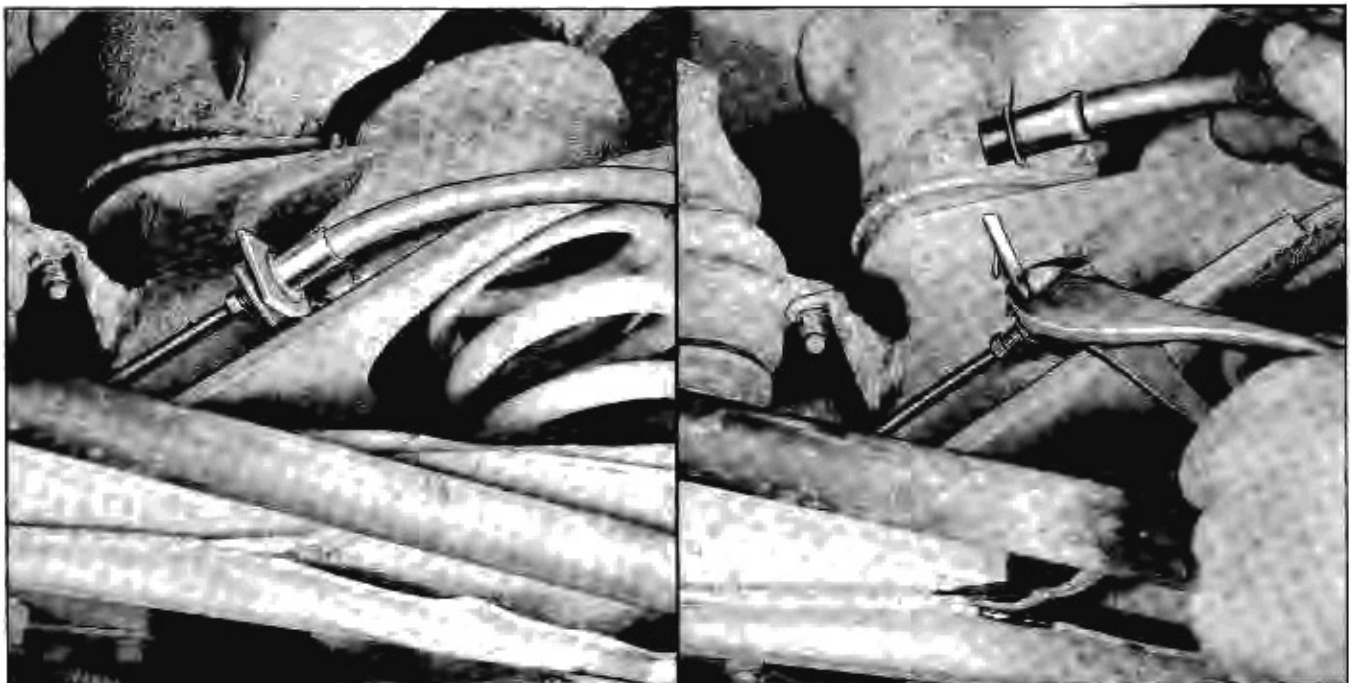

Fig. 3-29 Disconnecting Brake Hose from Brake Line
2. Loosen the control arm cross shaft bolts (in ends of shaft). Disconnect brake hose from brake line at junction point (Fig. 3-29). Remove the wheel and tire assembly. Replace the nut onto the studs to hold the drum in place.